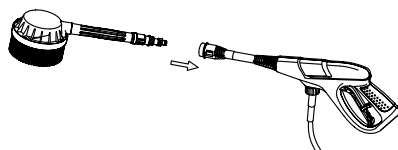

Figure 13
3. Instead of the spray lance **14** or turbo lance **13**, insert the rotating brush **12** (see **fig. 13**).